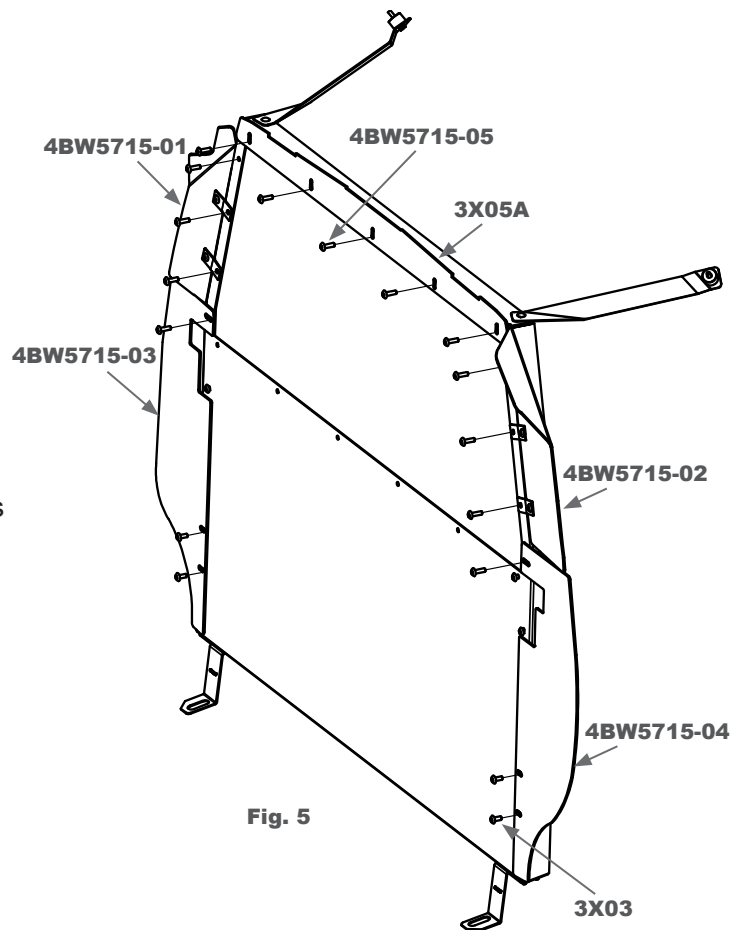

Fig. 5
E. At this point, the barrier wings should be installed starting with the bottom wings 4BW5715-03 & 04, which slide over the support bar assembly attached to the barrier. The two bottom hole locations utilize 3X03 bolts, however the top hole locations use a 3X05A bolt to attach the wings to the barrier with 3X12 washers and 3X16 nuts. The Upper wings are attached to 3B929 brackets using 3X03 bolts and 3X16 nuts. The other end of the brackets are attached to the barrier using 3X05A bolts, 3X12 washers and 3X16 nuts. The headliner wing 4BW5715-05 is attached to the barrier using 3X05A bolts, 3x12 washers and 3X16 nuts. (Fig. 5)